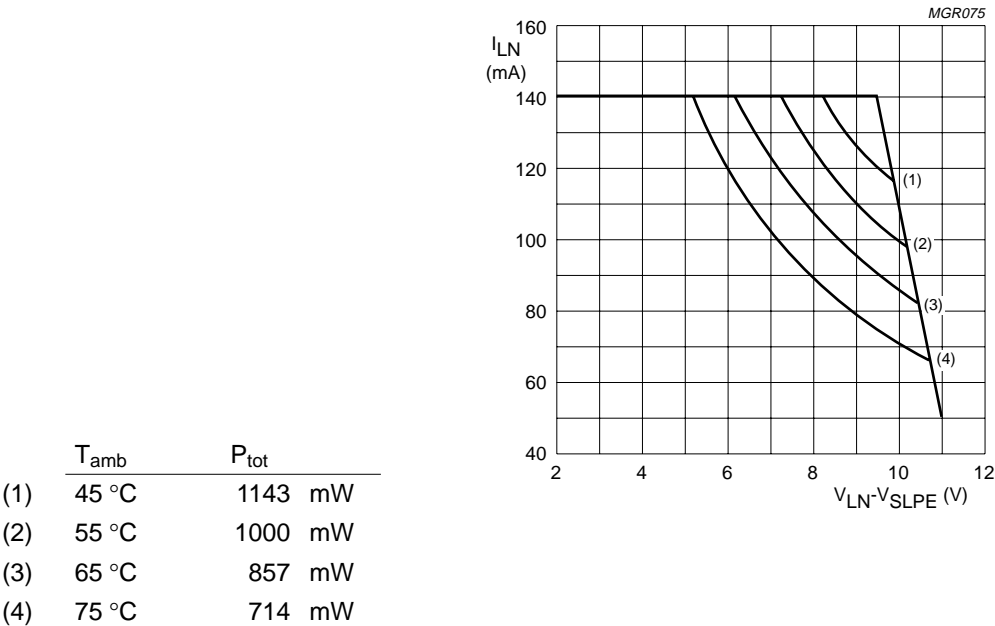

Fig.20 TEA1064A safe operating area.
1. Mostly dependent on the maximum required  $T_{amb}$  and on the voltage between LN and SLPE. See Figs 20 and 21 to determine the current as a function of the required voltage and the temperature.